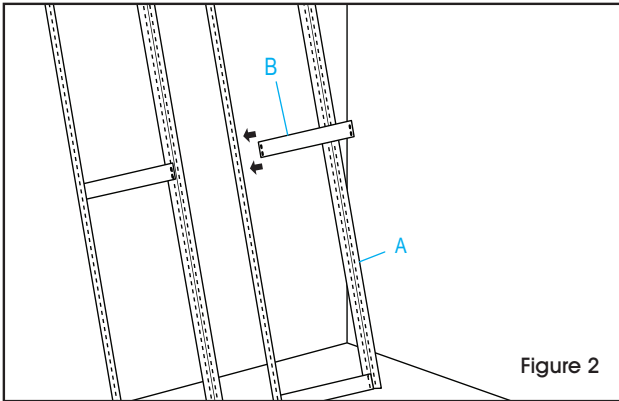

Figure 2
3. Place side support pieces (B) in the middle of the upright posts at desired middle shelf height. (See Figure 2)